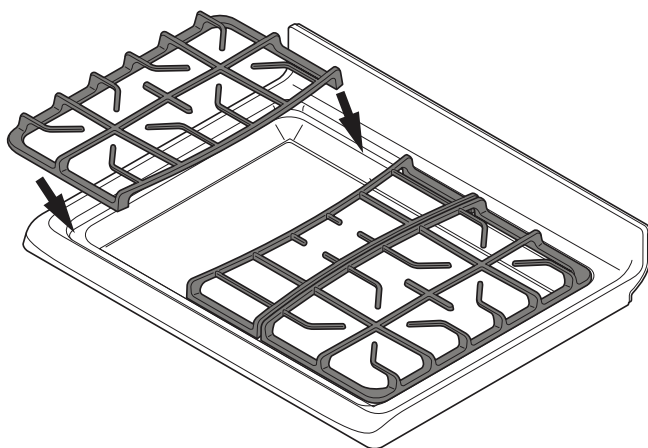

Figure 4: Grate installation
- Make sure the burner grates are properly placed on the cooktop before using the surface burners (Figure 4). The grates are designed to rest inside the recess on the cooktop.